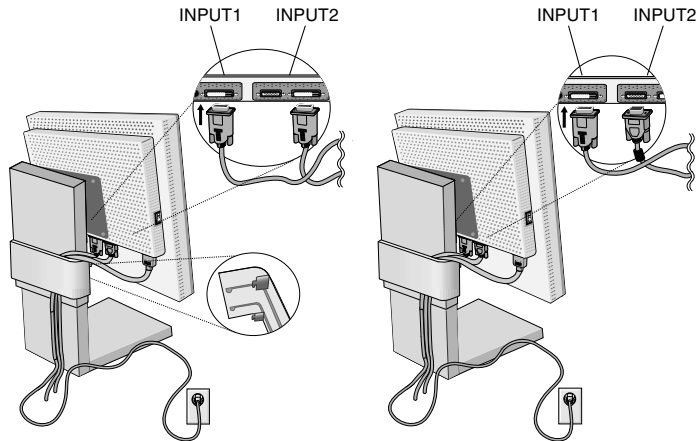

Figure C.1
3. Connect the DVI signal cable to the connector on the back of the monitor. Place the video signal cable (**Figure C.1**). Connect only either VGA or DVI to input 2.
Collect cables and keep them in the stand with attached cable cover. The cable cover can be attached on the front or back side of Tilt Stand (**Figure C.1, C.2**).
4. Connect one end of the power cord to the AC inlet on the back of the monitor and the other end to the power outlet (**Figure C.1**).